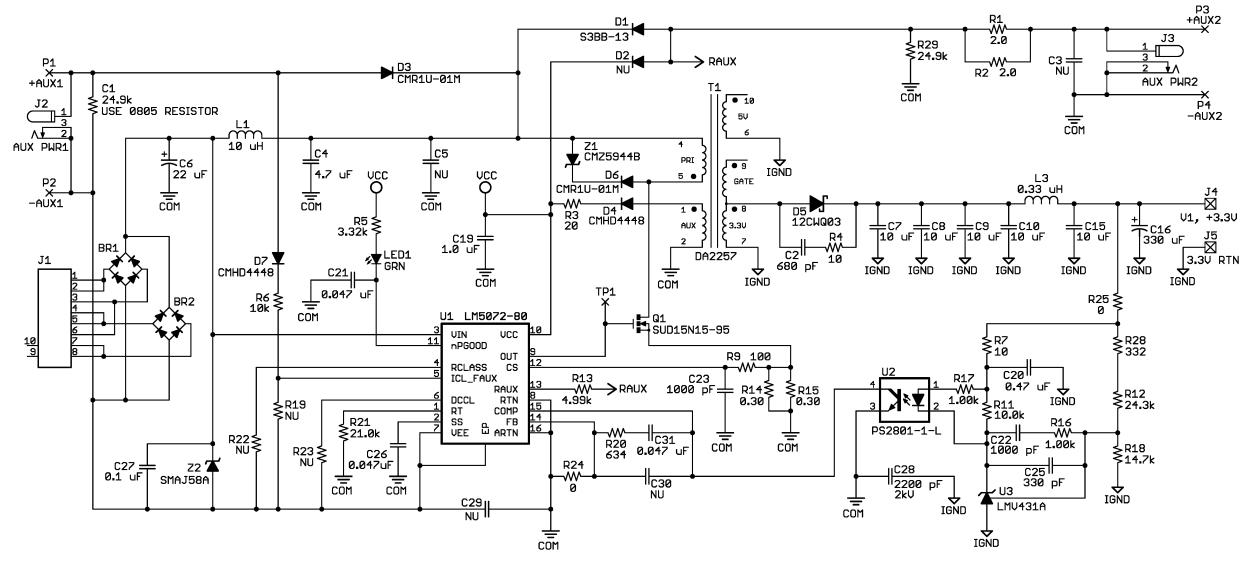
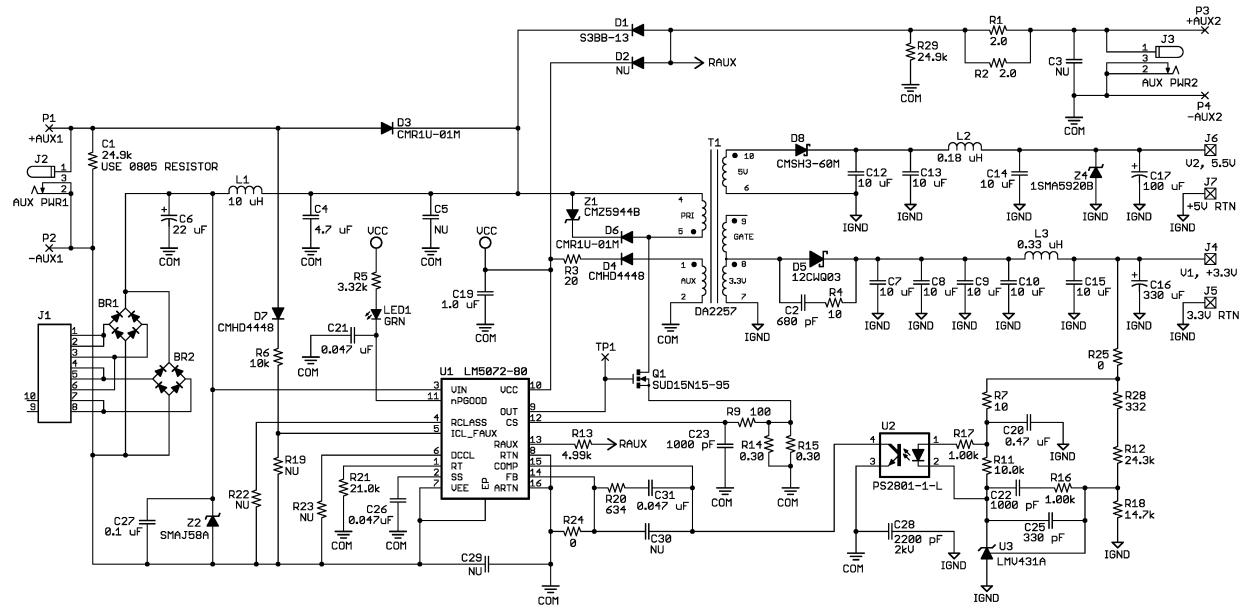
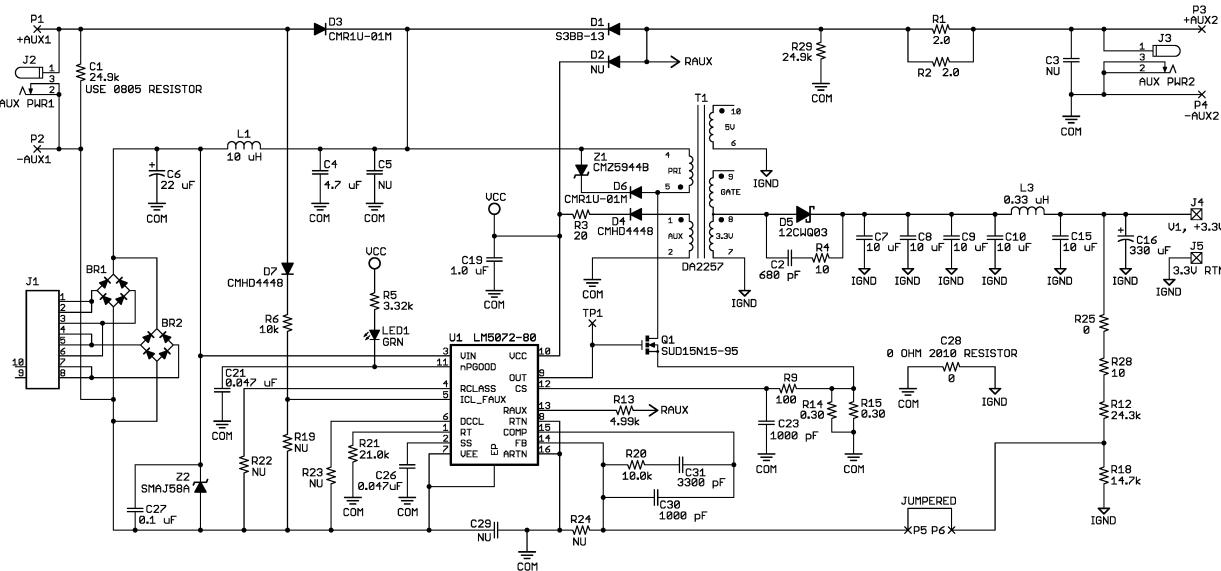

FIGURE 18. PD with Isolated, Single Output Solution
FIGURE 19. PD with Isolated, Dual Output Solution
FIGURE 20. PD Solution with Non-Isolated Flyback Topology
Before processing the Printed Circuit Board (PCB) layout, the engineer should make all necessary adjustments to the schematic to suite the application. The reader may notice that the LM5072 evaluation board is designed with dual outputs, both FAUX and RAUX power options, and some re-configuration flexibility features (refer to Figure 19). However, many devices can be removed for a particular application. Recommendations on simplifying Figure 19 to suit a given application are as follows:
3. When neither FAUX nor RAUX power options are selected, delete all the parts mentioned in (1) and (2) above.
6. Jumpers P5 and P6 (Figure 20) should be deleted from the schematic completely, being replaced by a short connection for an isolated application, or by an open for a non-isolated application.
Figure 18 shows an application example of a single isolated output solution for the PD. Both front auxiliary (FAUX) and rear auxiliary (RAUX) power options are given, although only one option may be needed in practice. Note that for the RAUX option, D2 is only installed when the supply voltage of the auxiliary power source would cause the V_{IN} voltage to be below 14.5V.
Figure 19 shows an example of an isolated, dual-output solution for the PD. The 3.3V output is tightly regulated while the 5V output is cross-regulated. Both front auxiliary (FAUX) and rear auxiliary (RAUX) power options are given, although only one option may be needed in practice. Note that for the RAUX option, D2 is only installed when the supply voltage of the auxiliary power source is lower than 14.5V.
Figure 20 shows an application example of the non-isolated version of Figure 18. This non-isolated version saves many parts used in the isolated feedback example shown in Figure 18. Similar simplification also applies to the non-isolated version of Figure 19.